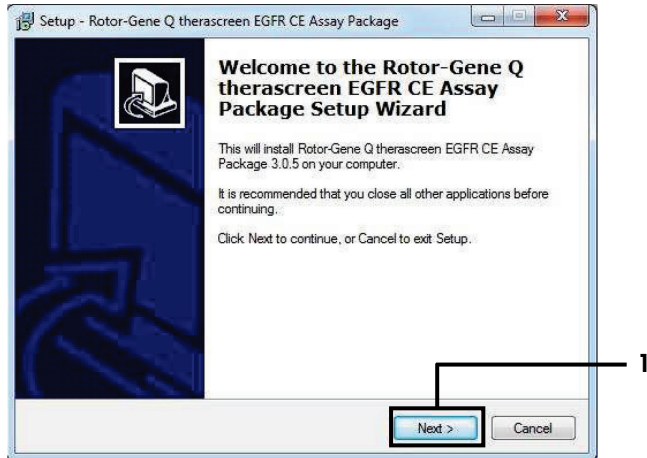

Figure 41. The "Setup Wizard" dialog box (1 = "Next").
4. Click **Next** to continue (Figure 41).